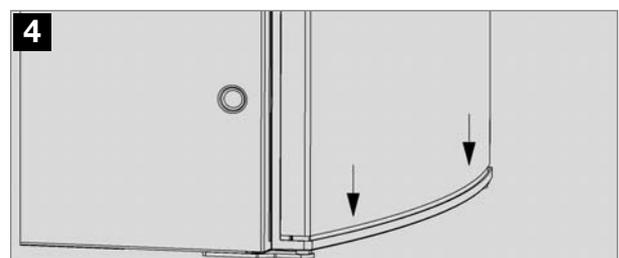

Fig. 31
- The gas connection to the appliance is 1/8" BSP Female (s. figure 31).